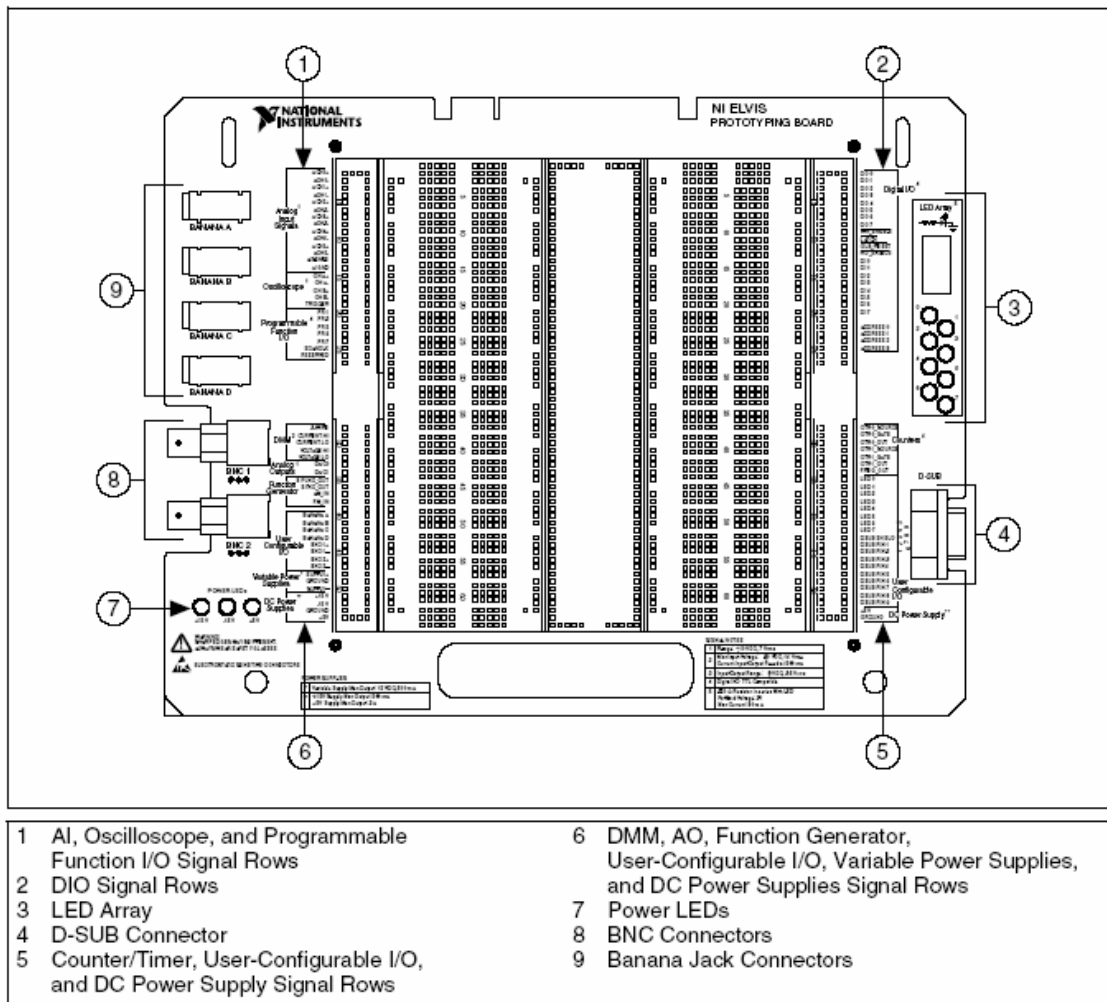

Figure 2 - Prototyping Board Parts Locator Diagram
- a. For AC and DC voltage measurements, use the *VOLTAGE HI* and *VOLTAGE LO* lines. These inputs are on the left-hand side of the proto-board, shown in Figure 2, area 6.
- For AC and DC current, resistor, capacitor, inductor, diode, and continuity measurements, use the *CURRENT HI* and *CURRENT LO* lines. These inputs are on the left-hand side of the proto-board, shown in Figure 2, area 6.